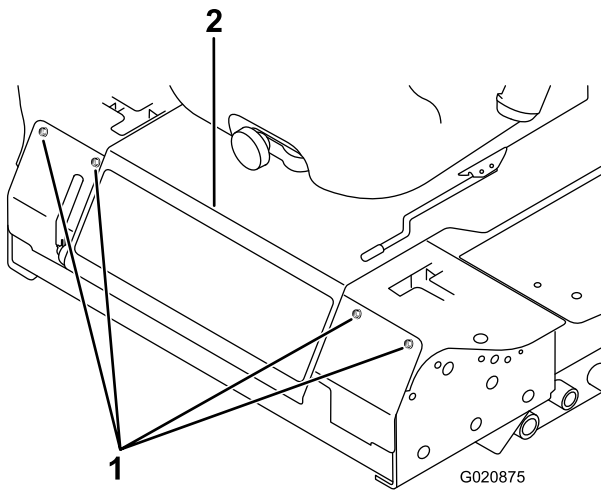

Figure 48
3. Remove the bolts securing the front panel and remove the panel (Figure 48).